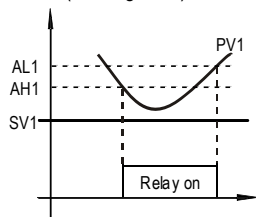
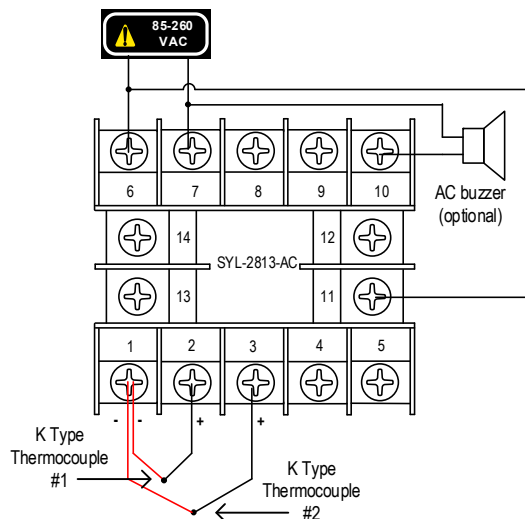

Figure 7. Absolute low alarm on J1.
Figure 8. SYL-2813-AC wiring example of two thermocouple sensor.
Relay J1 and J2 are normally open (N.O.) relays associated with alarm settings of Channel 1 and Channel 2 respectively. Each relay has two alarm parameters AH and AL. The parameter AH (AH1 for Channel 1, or AH2 for Channel 2) is the relay pull-in temperature, and the parameter AL (AL1 for Channel 1, or AL2 for Channel 2) is the relay drop-off temperature. The range for each alarm parameter is shown in Table 5. If AH > AL, relay acts as a high temperature alarm relay; if AH < AL, relay acts as a low temperature alarm relay; if AH = AL, the relay/alarm is disabled. Please see Note 6, Figure 7, and Figure 8 for details.
3). When AH < AL, relay is set as low limit alarm (see Figure 7).
To measure temperatures with two thermocouple sensors, you can wire the sensors to SYL-2813-AC meter as the diagram in Figure 8. In this diagram, #1 thermocouple probe is wired to channel 1, and #2 thermocouple probe is wired to channel 2. You will need to change the input types and other parameters for Channel 1 and 2 accordingly.